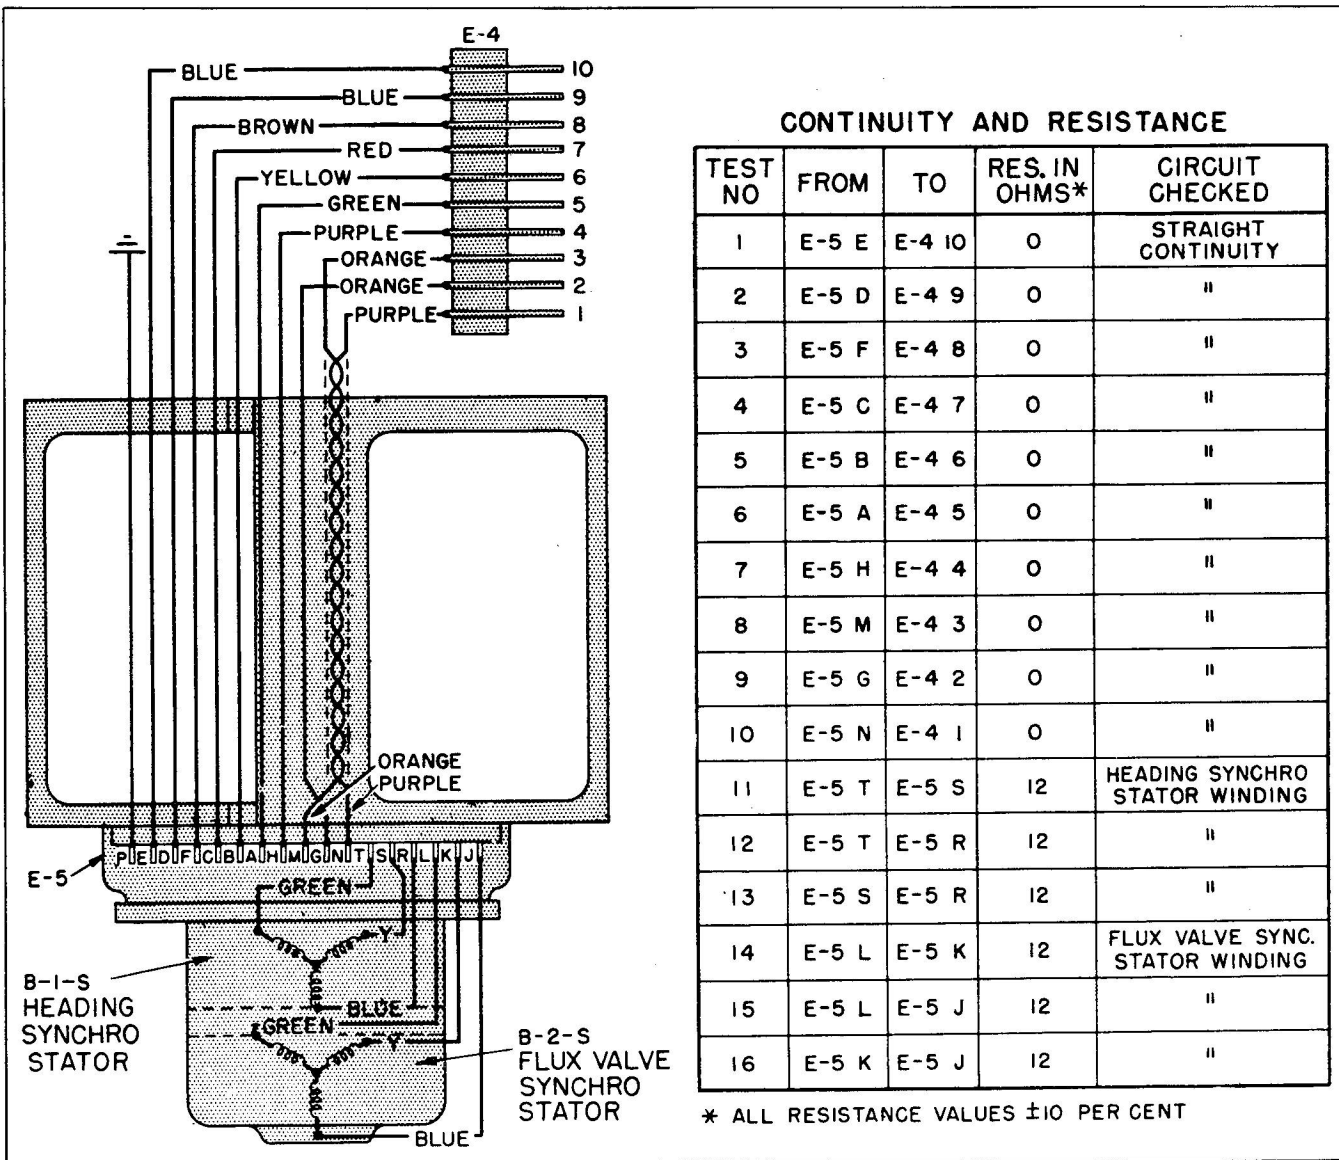

Figure 4-7. Wiring Diagram of Frame and Synchro Assembly
(8) Inspect the slip ring assembly guard for cracks, dents, or other defects.
(9) Using an ohmmeter, check the continuity and resistance of the synchro stator windings, brush block assembly, and cable assemblies. (See figure 4-7 for table showing points to check and proper resistance values.) Replace defective wires as necessary. If the values for one or both synchro stator windings are not within tolerance, the windings must be replaced as per instructions given in paragraph 4(b) this part.
(3) Resolder the three leads for the gyro stator to the lugs on the eyelet assemblies, using the color coding provided by the dots on the cover.
(4) Recheck the wiring for continuity. (See figure 4-7.)
(5) Run a megger test (500 or 600 volts) between the gyro case (ground) and each of the contacts on the contact assembly. The megger should register 8 megohms or more. Replace defective wires as necessary.
(6) Set the completed subassembly aside in a dustproof container until needed for reassembly to the vertical ring.